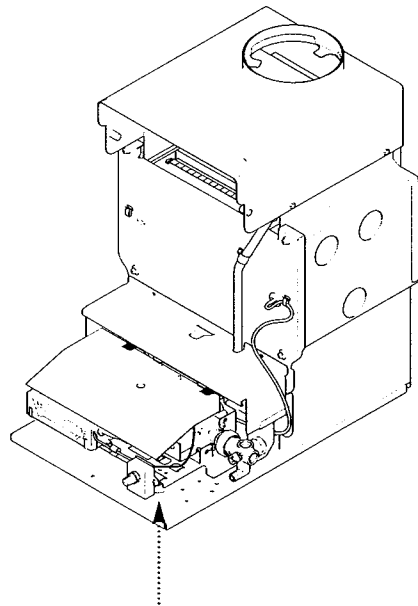

Fig. 27
3. Turn the boiler thermostat to the OFF position (Fig. 27).
5. Slacken the pressure test point sealing screw and connect a pressure gauge (Fig. 27).